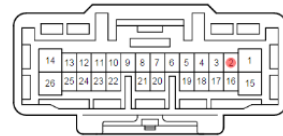

Figure 25
37. Using a Red T-tap, connect the **Yellow** wire to the Pink wire in **Pin 2** of the blue **DA2** connector. Figure 25.
38. Using a Blue T-tap, connect the **Black** wire to the White/Black wire in **Pin 1** of the **GD1** connector. Figure 25.